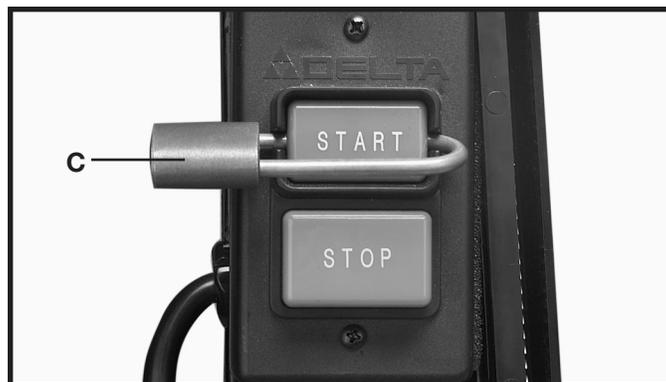

Fig. 42
IMPORTANT: When the tool is not in use, the switch should be locked in the “OFF” position to prevent unauthorized use, using a padlock (C) Fig. 42 with a 3/16" diameter shackle.